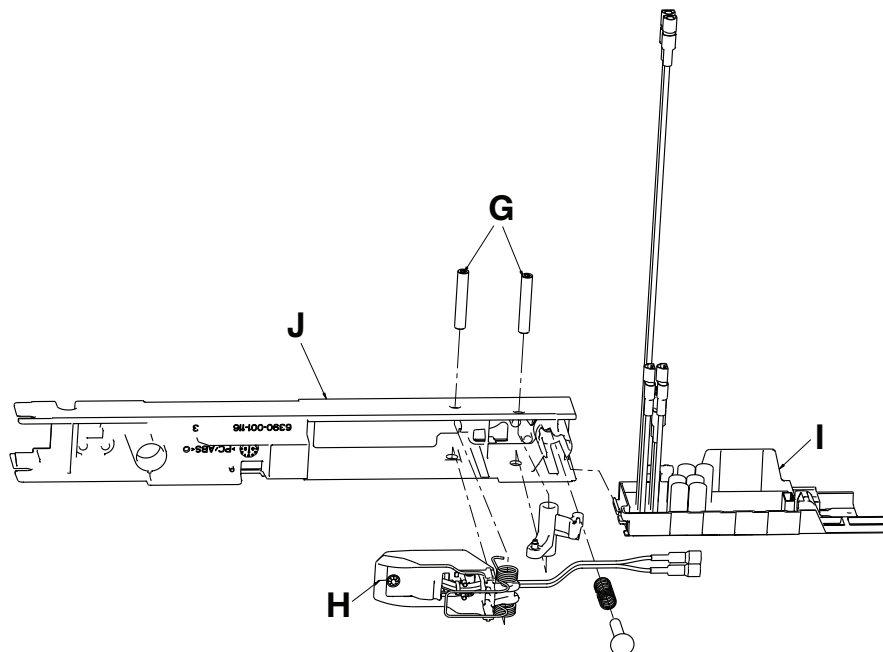

Figure 42: Unplug coil wires from the inductive primary board
- Remove the anchor pivot pin (G) that holds the anchor coil assembly (H) to the anchor housing (J) (Figure 42 on page 73).
- Unplug the coil wires from the inductive primary board (I) (Figure 42 on page 73). Discard the anchor coil assembly.